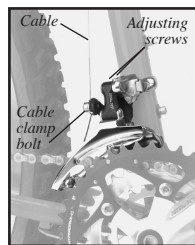

Figure 21- Front derailleur
2. Loosen the front derailleur cable clamp bolt (Figure 21) until the cable is free.